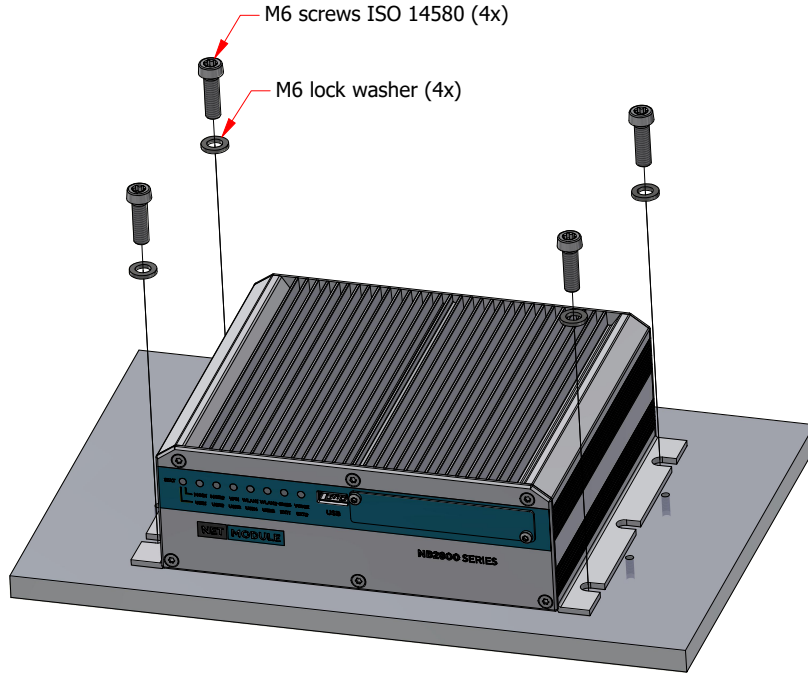

Figure 1
3.1 Place the screw and lock washer over the mounting hole (Figure 1)